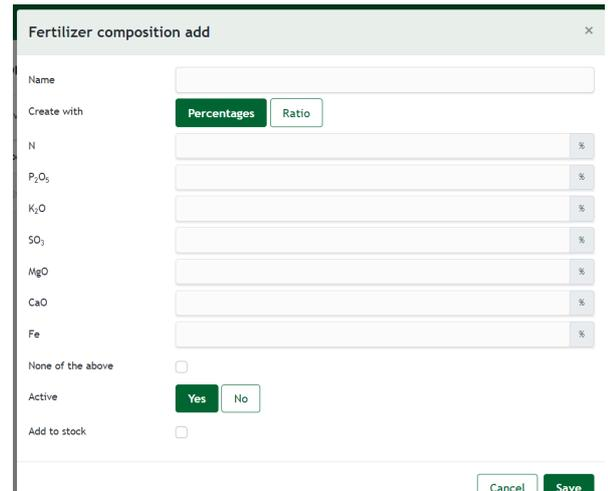

Figure 9
3. You will see a pop-up as shown in figure 9. Enter the details of the fertiliser composition here, either as a percentage or in weight. For the latter, always enter the total weight. The proportions will be calculated automatically.